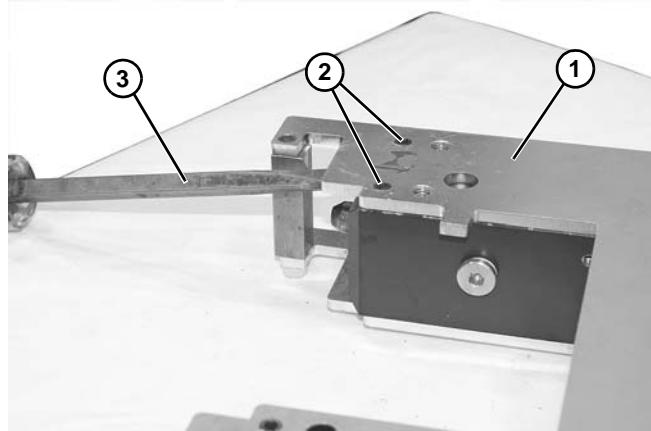

Figure 66
12. Pry side plate (**Figure 66, item 1**) from groove pins (**Figure 66, item 2**) using a flat blade screw driver (**Figure 66, item 3**) on both sides of lift and locate station.